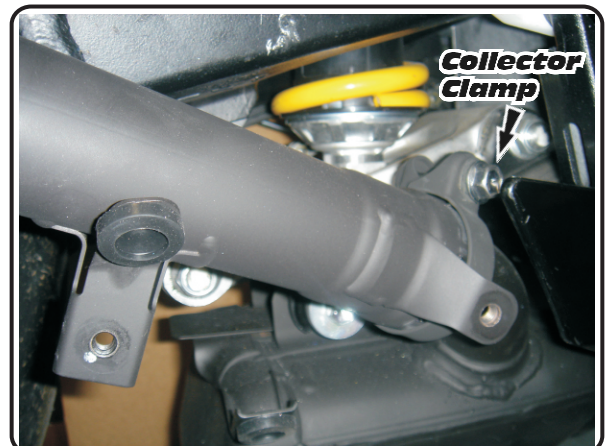

Fig. 2
- 2 Loosen left and right stock collector clamps (see Fig. 2 and 3).